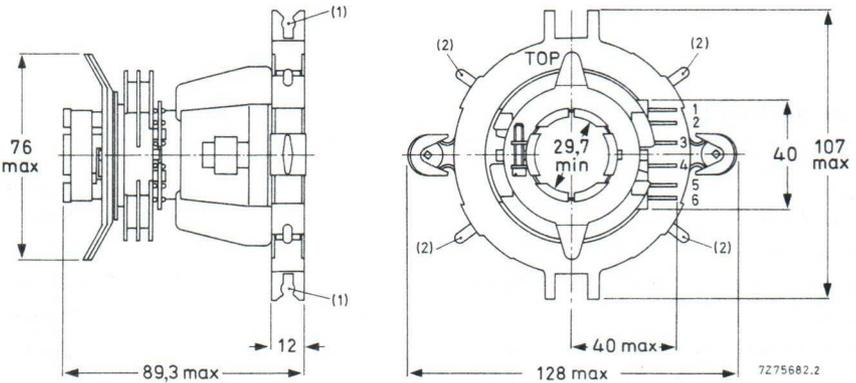
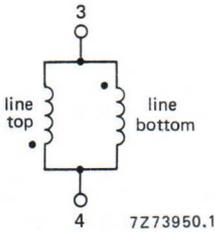

Fig. 1 Deflection unit AT1071/07. Facilities for fitting correction magnets:
Fig. 2a Line coils.
The unit is provided with solder pins for connection. The pin numbering in Fig. 1 corresponds to that in the connection diagram (Figs 2a and 2b).
**Line deflection coils**, parallel connected (Fig. 2a);